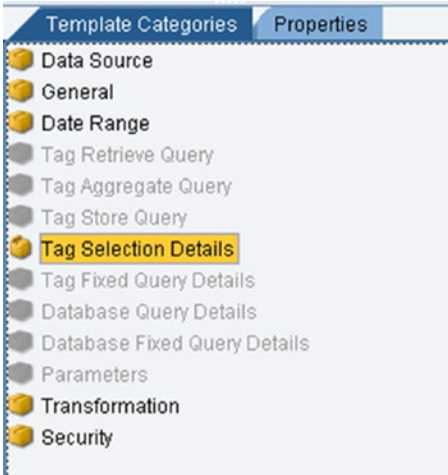

Figure 6-27. Choosing Tag Selection Details from the Template Categories tab
3. After TagList is selected, double-click on the Tag Selection details from the Template Categories tab, as shown in Figure 6-27.